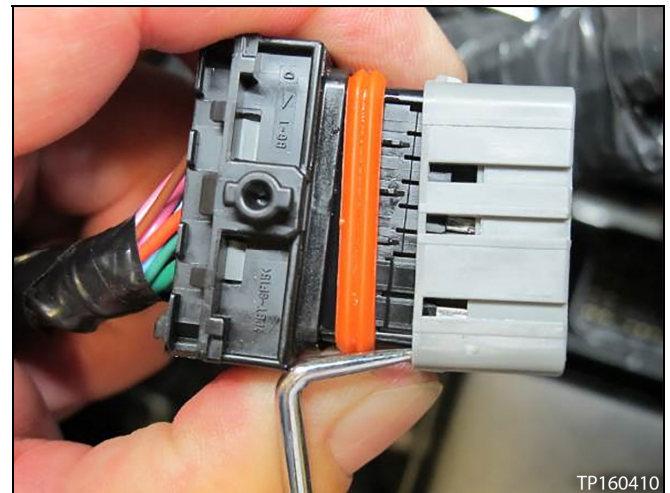

Figure 8
- b. Carefully unlock the locks at all four corners, and then slide off the gray terminal cap (Figure 8).